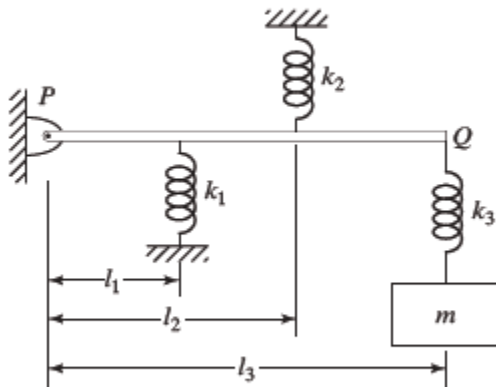

FIGURE 2.51
- 2.7 Three springs and a mass are attached to a rigid, weightless bar PQ as shown in Fig. 2.51. Find the natural frequency of vibration of the system.